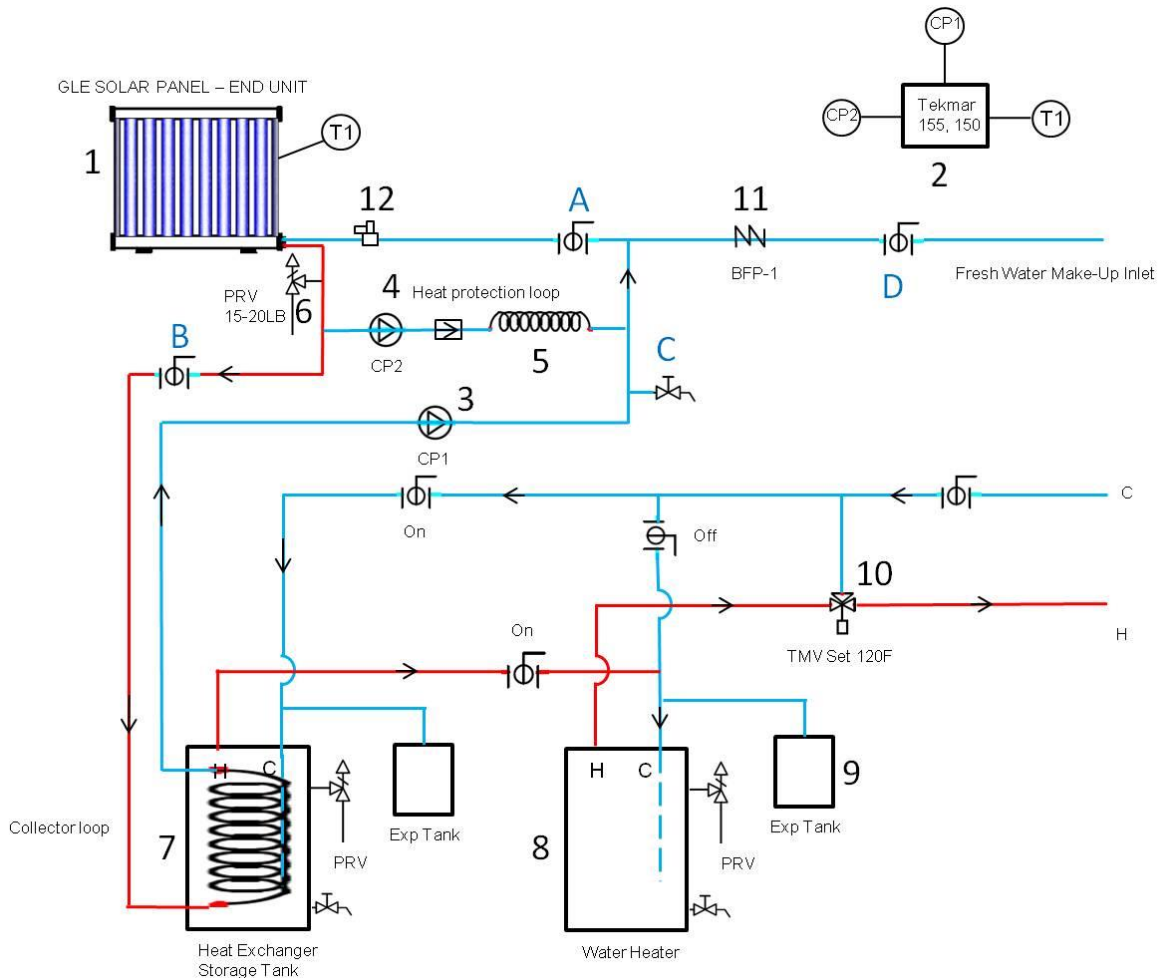

Figure 6.3: Closed Loop system design diagram showing basic functionality.
7.2.3 **Control Setting for Closed Loop Systems:** CL system design has two controllers to control different targets in functionality, as shown in Fig. 6.3.